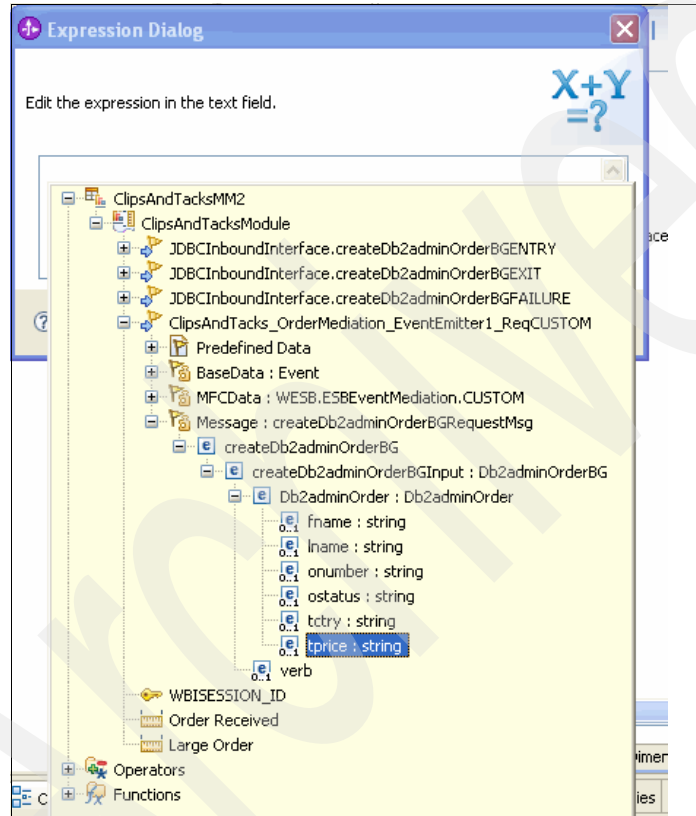

Figure 6-107 Expression Dialog
5. As shown in Figure 6-107, expand **ClipsAndTacksMM2** → **ClipsAndTacksModule** → **ClipsAndTacks_OrderMediation_EventEmitter1_ReqCUSTOM** → **Message** → **createDb2adminOrderBG** → **createDb2adminOrderBGInput** → **Db2adminOrder** and select **tprice**. Click **OK**.